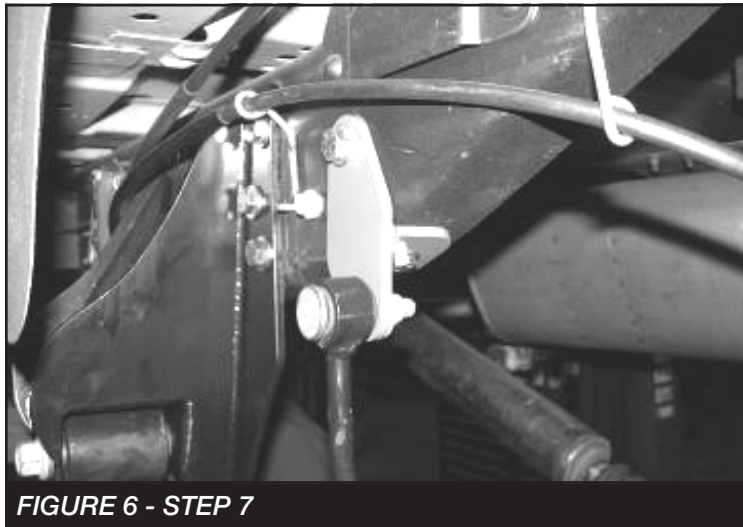

FIGURE 6 - STEP 7
7. Locate the FT30240BK (driver) and FT30241BK (pass) Rear Sway Bar Drop Brackets. Remove the factory sway bar endlinks from the frame and save the hardware. Place the drop bracket onto the frame so that the hole in the new bracket is directly above the factory hole (the longer end of the bracket goes upward and attaches to the frame). Use a paint pen or center punch to mark the center of the hole. Using a drill, drill the new hole into the frame starting with a smaller size bit and working up to the 1/2" size. Using a drill with a 3/8" bit, drill the bottom hole through the new bracket into the frame. Use the supplied 3/8" hardware and install the bolts through the bracket into the frame, torque to 30 ft. lbs. Install the end link into the bottom of the new drop bracket with the factory hardware and torque to 50 ft. lbs. **SEE FIGURE 6**